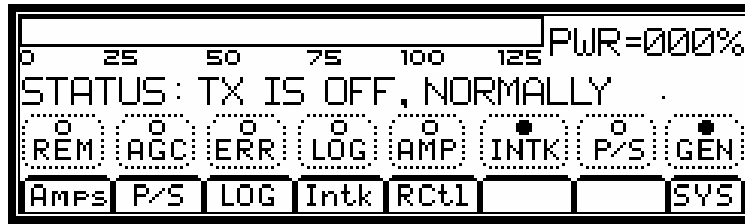

Figure 7 Main Menu
| FIGURE 7 | MAIN MENU..... | 15 |
- On the LCD (see Main Menu display in Figure 7), the PWR should be at 000% and the STATUS should be TX IS OFF, NORMALLY.